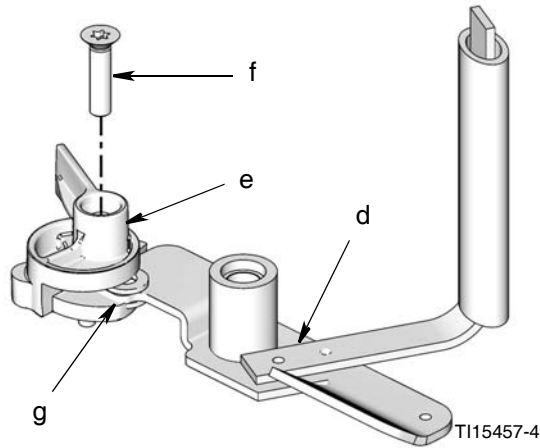

FIG. 6
- a. Remove bolt (f) and washers (g) holding low level paddle (e) to stirring paddle (d) and completely separate these parts from stirring paddle. Keep bolt and washers for reassembly (FIG. 6).